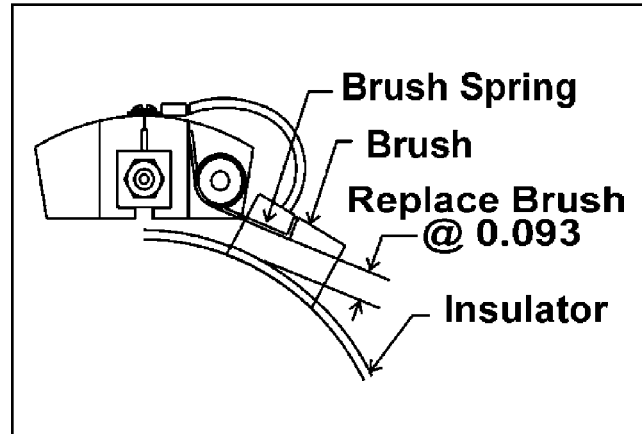

Figure 20-1
4. Replace Brushes when the brush spring is within 0.093" of the ring insulator. See **Figure 20-1**.